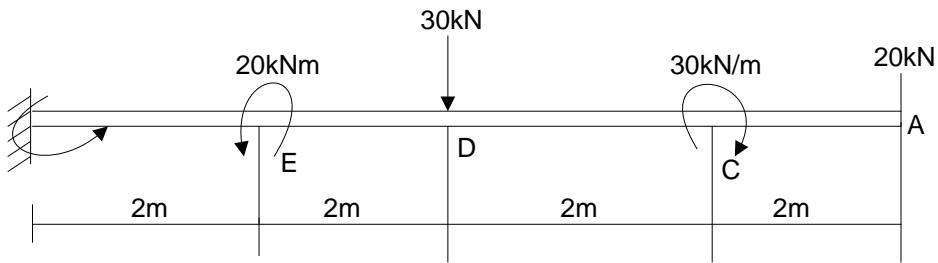

Figure 5
5. Find the reactions at the fixed end of the cantilever loaded as shown in Figure 5. Draw the shear force diagram (SFD) and bending moment diagrams (BMD) (20 marks)